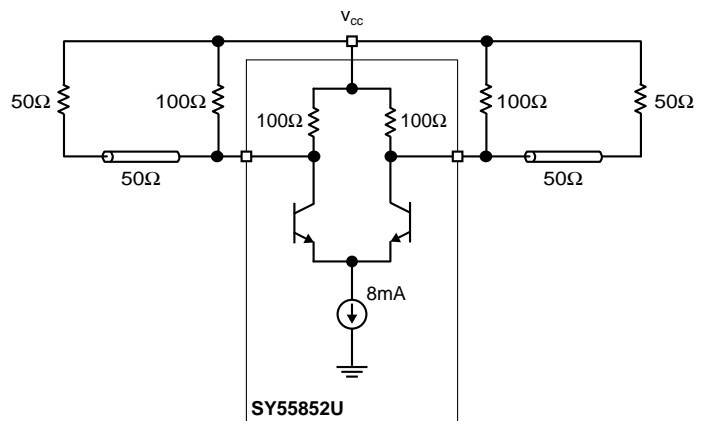

Figure 3b. Individually Terminated (50Ω Load CML Output)
- Tested using environment of Figure 3b, 50 $\Omega$  load CML output.